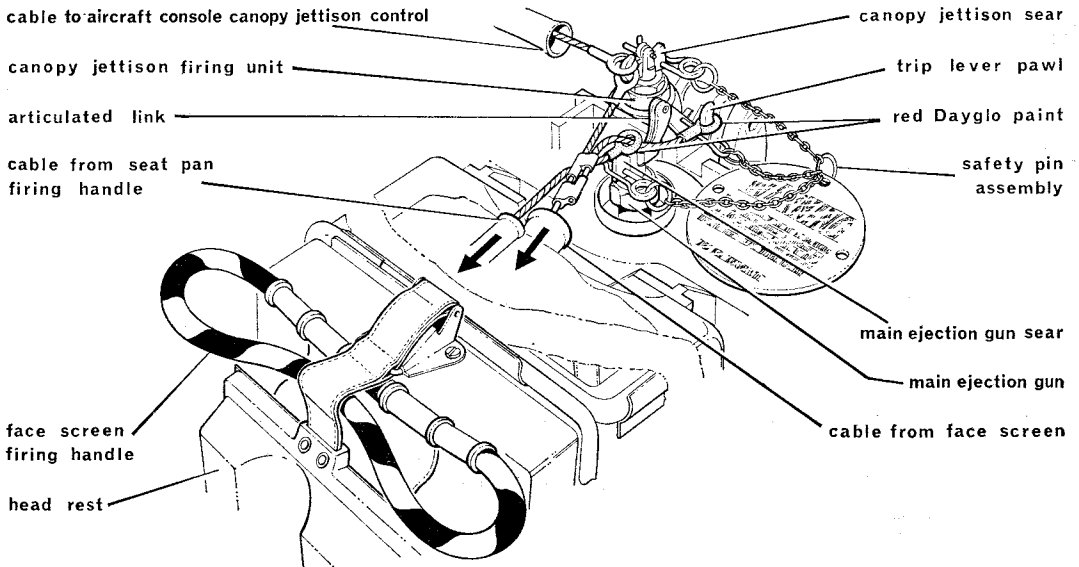

Fig 3 Safe for servicing
c. *Safe for servicing.* In this condition all firing pin sears are locked with safety pins (see Fig 3). It must be emphasised that *only named armament tradesmen* are allowed to change the condition of the seat to or from 'safe for servicing'.